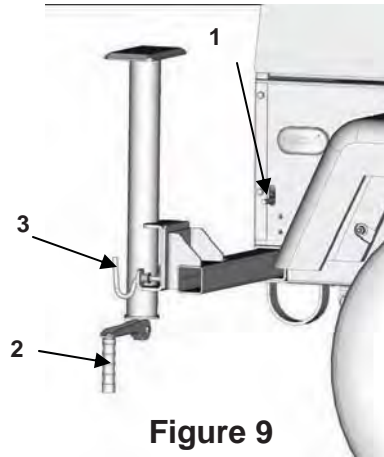

Figure 9
3. Extend the front outrigger stabilizers out and lock in place (**Figure 9**).